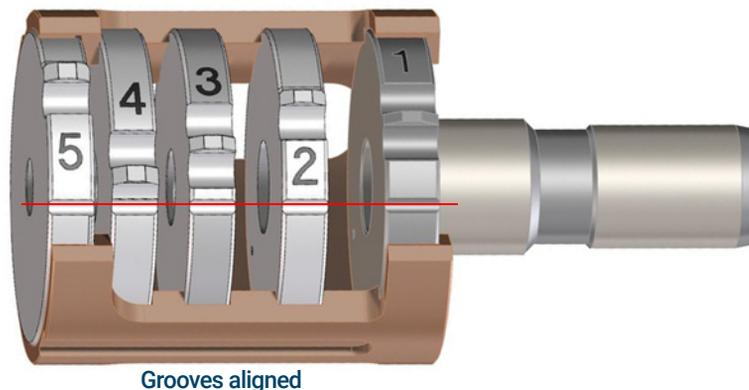

Figure 59. Assembled EI HES lens stack
- 1 Assemble the five lenses inside the lens insulator. (See Figure 59.) The lens number is engraved into the outer circumference of each lens.